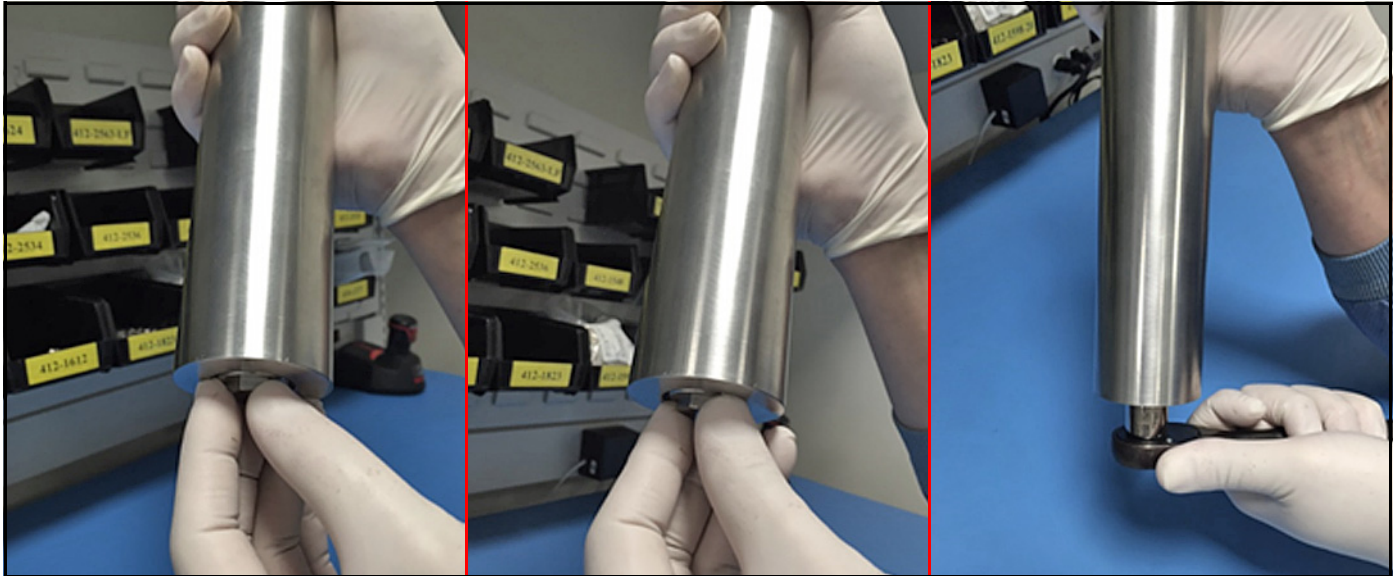

Figure 97: Replacing Mirror End Cap Assembly into the Absorption Cell
- Using tweezers, insert the mirror into the hole on top of the shim, with the gold-plated side facing up. Thread the end cap into the bottom of the absorption cell tube. Secure the threaded end cap in place with a 5/8" socket wrench (see Figure 97 below).